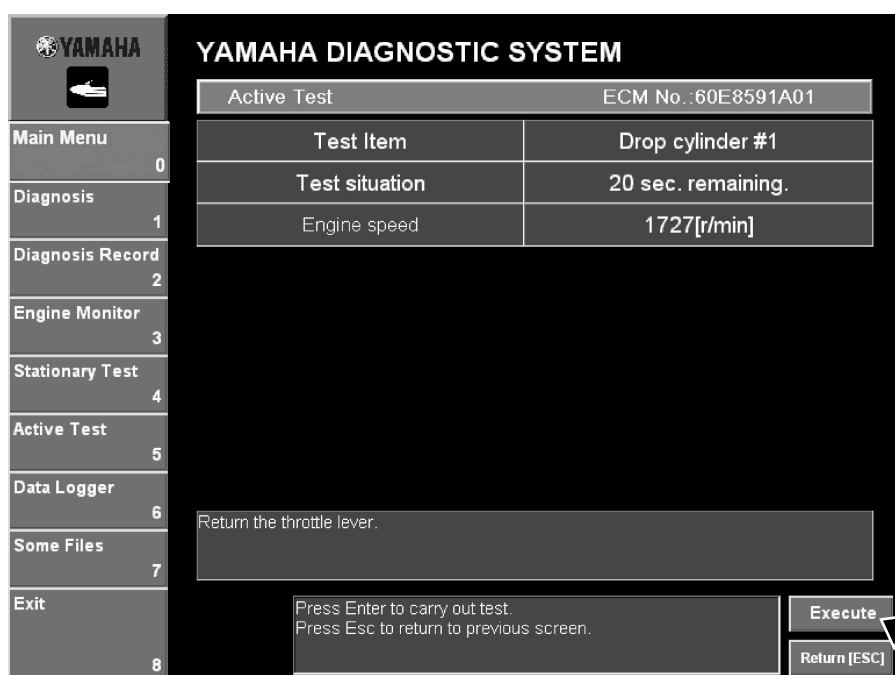

Fig. 94
5. While checking the information that appears beside **Test situation** and **Engine speed**, follow the test instructions in the messages that are displayed. (See fig. 94.)